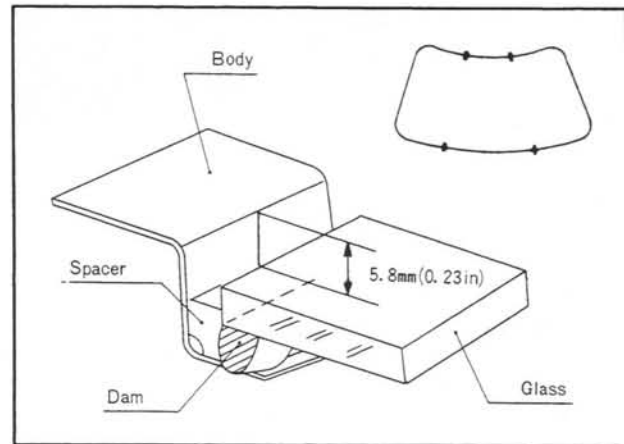

Fig. 14-15 Adjusting of step
- (a) After placing the window glass on the inner side of the spacer, push the glass with the hand and check the step at the four positions shown in Fig. 14-15.